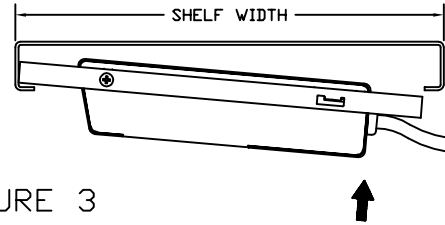

FIGURE 3
- PULL FIXTURE FORWARD (THIS WILL DEFLECT FRONT OF SPRING BRACKETS) UNTIL BACK OF SPRING BRACKET CLEARS BACK LEDGE OF SHELF. RAISE FIXTURE UP FLAT AGAINST BOTTOM OF SHELF. (SEE FIGURE 3)